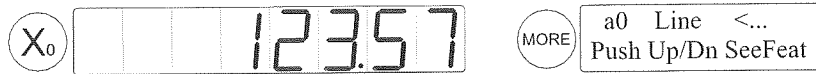

Figure 2-22 Line Message
- d. Press the  key to view another message (Figure 2-22).